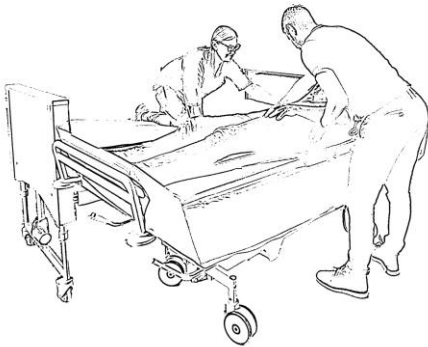

Fig. 4
13 Both caregivers must assist the patient to move towards the middle of the Koval shower trolley (see Figure 4).
- 8 Both caregivers must assist the patient to move towards the bed (see Fig. 4).